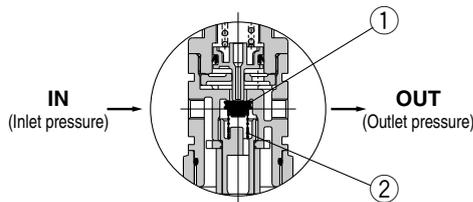
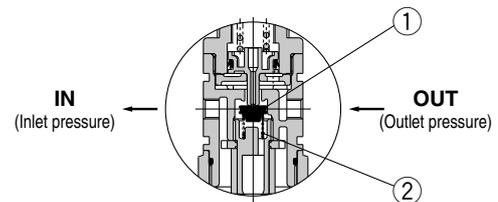

Figure 1
Figure 2
When the inlet pressure is higher than the regulating pressure, the check valve operates as a normal regulator (Figure 1).
When the inlet pressure is shut off and exhausted, any inlet pressure applied to the valve ① will be lost. The force for seating the valve ① is the valve spring force ② only. When the valve ① is opened using the outlet force, the outlet pressure will be exhausted at the inlet side (Figure 2). When the set pressure is 0.15 MPa or less, the valve ① may not open due to the valve spring ② force.
When the inlet pressure is higher than the regulating pressure, the check valve ② closes and operates as a normal regulator (Figure 1). When the inlet pressure is shut off and released, the check valve ② opens and the pressure in the diaphragm chamber ① is released into the inlet side (Figure 2). This lowers the pressure in the diaphragm chamber ① and the force generated by the spring ③ lifts the diaphragm. The valve ④ opens through the stem, and the outlet pressure is released to the inlet side (Figure 2).